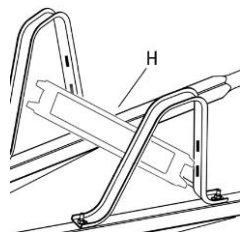

Fig. 4
8. Place the leg brace (H) across the leg (Fig. 4).